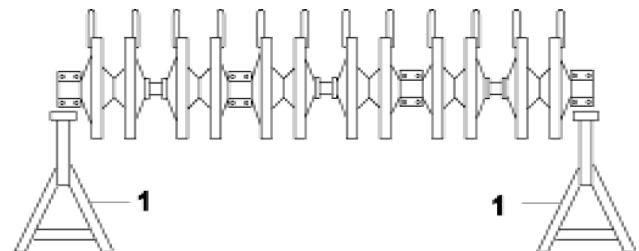

FIGURE 2
2. Activate tractor hydraulic system and raise Tracaire. Raise the unit approximately 6" (15.2 cm) above working surface and support with jackstands placed beneath the pillow blocks. Lower Tracaire onto jackstands and shut off tractor engine. See Figure 2.